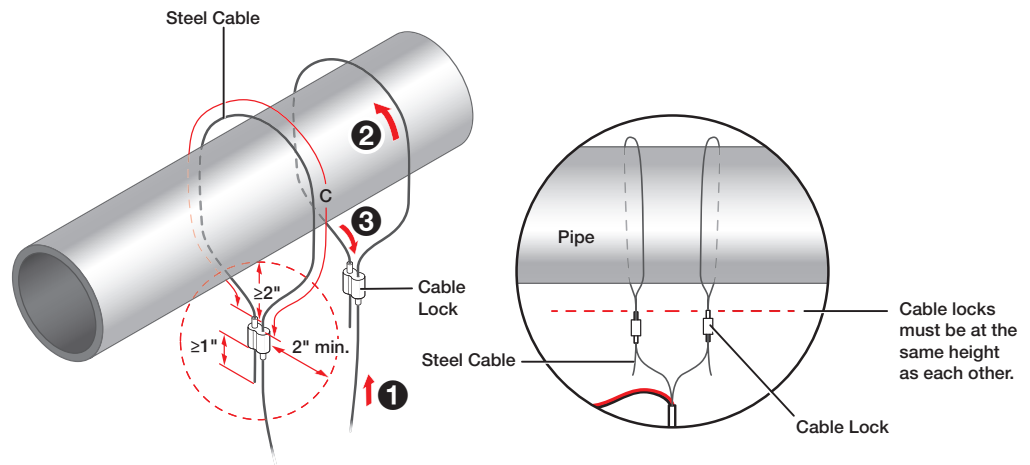

Figure 7. Connecting the Cables to the Support Structure
9. At the structure attachment point end of the support cable, route the cable around or through the attachment structure (see figure 7, 2, on the next page).
- If the cable locks are within 2 inches of each other then they must be at the same height as each other (see figure 7).
10. Pull enough cable through so that there is at least a 2-inch gap from the top of the cable lock to the bottom of the attachment structure while making sure that at least 1 inch of steel cable protrudes out of the cable lock (see figure 7, ③).